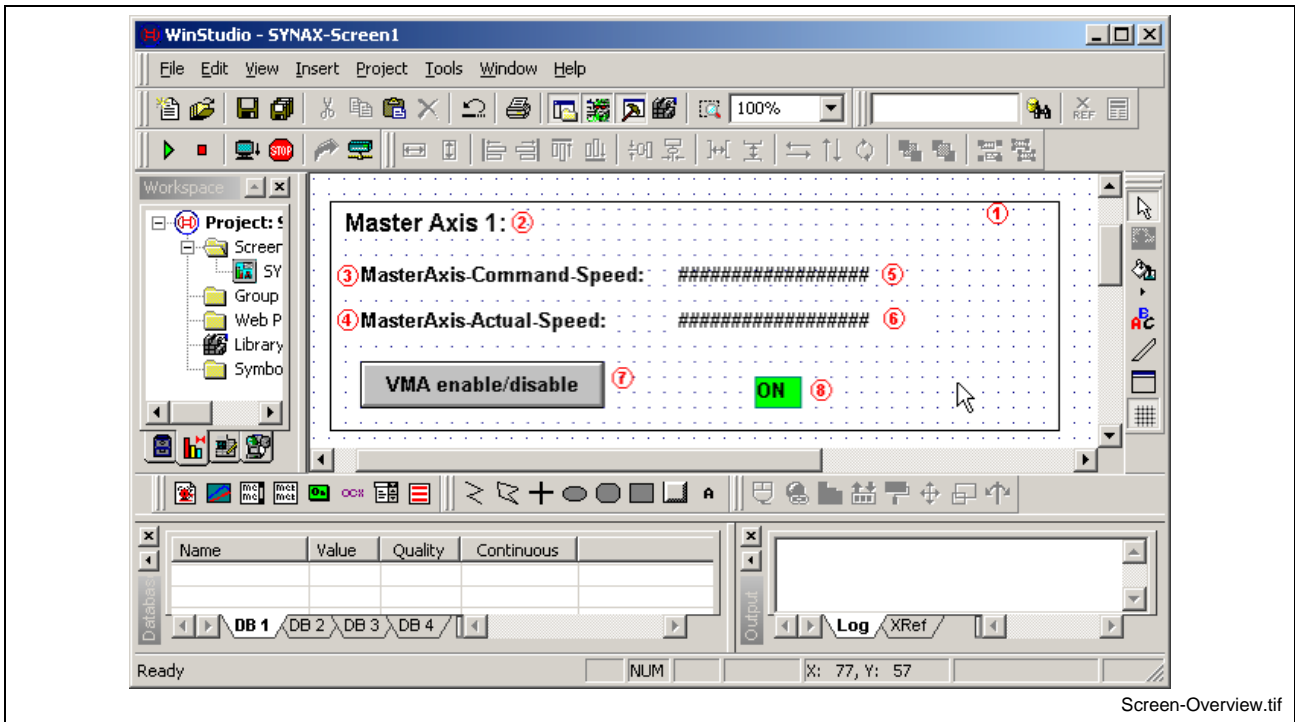

Fig.5-24: Screen - overview
- "Fig.5-24: Screen - overview",